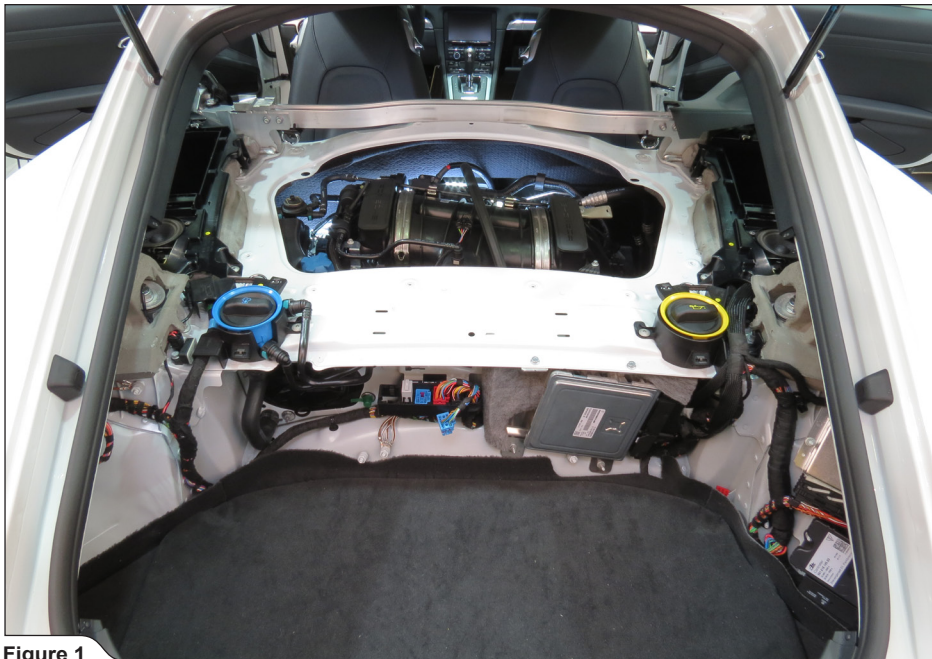

Figure 1
- Carefully undo the engine compartment's trim panels, cover, trunk trim panels and trunk floor carpet, to get access to vehicle's vacuum and electrical system (**Figure 1, 2, 3**).